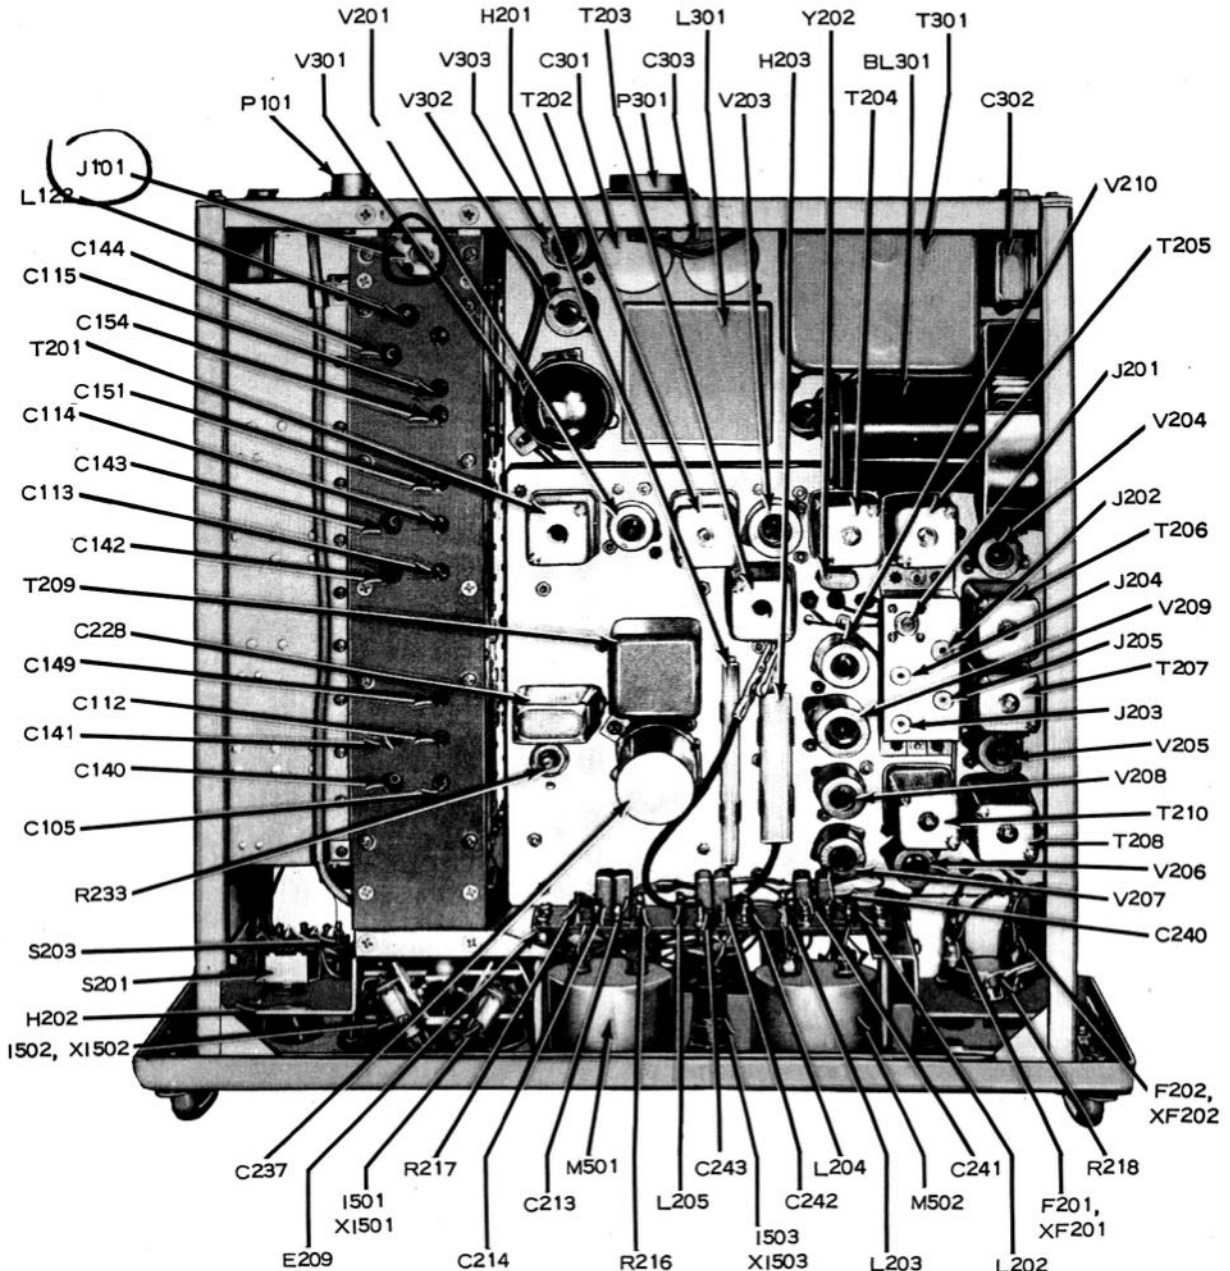
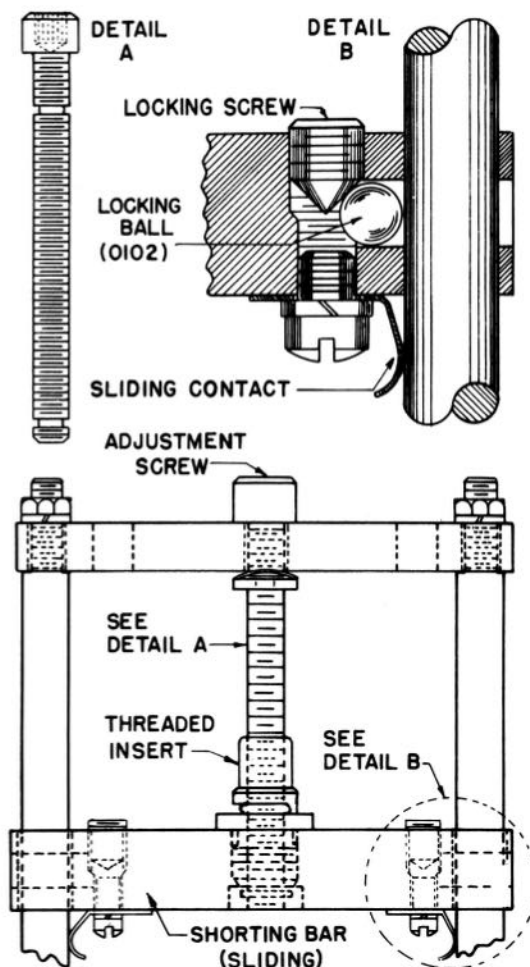
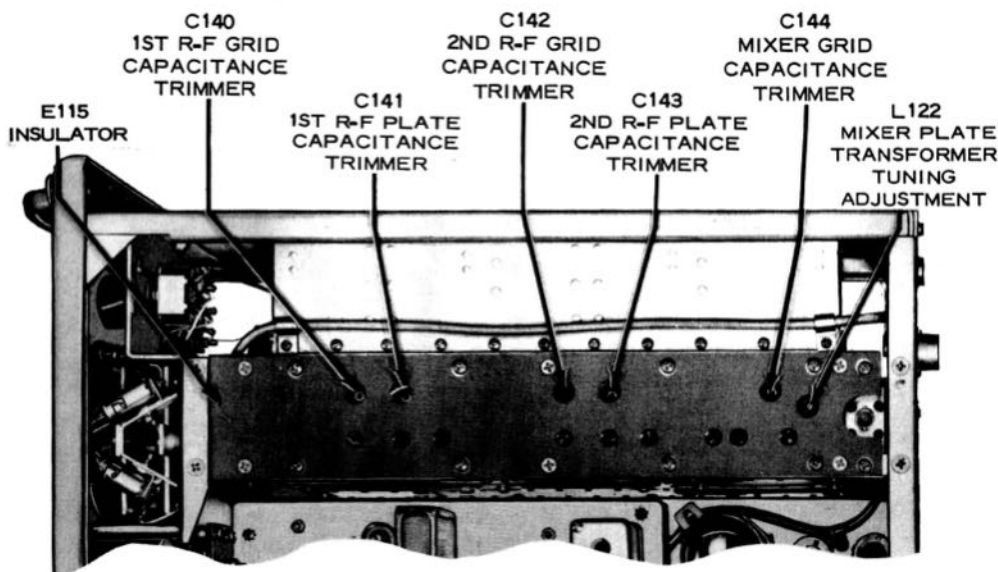

Figure 7-4. Radio Receiver R-482C/URR-35, Top View—Identification of Components
Figure 7-8. Details of Trimmer Inductances L103, L104, L107, L108, L111 and L112
Figure 7-10. Preselector Viewed from Top Side of Chassis, Showing Alignment Adjusting Screws
(1) RF Signal Generator AN/URM-25 series, Navy Model LP series, or equivalent signal generator having output impedance of 50 ohms.
(2) RF Signal Generator AN/URM-26 series, or equivalent.
(3) Multimeter ME-25/U series, Vacuum Tube Volt-Ohm-Milliammeter Navy Model OBQ series, or equivalent.
(4) Insulated alignment tool H201 and alignment and alignment loading tool H203, both mounted in clips on receiver chassis; see figure 7-4.
FUSE HOLDERS XF201 AND XF202 AT THE RIGHT SIDE OF THE FRONT SUB-PANEL; SEE FIGURE 7-4.
(1) Connect the output of RF Signal Generator AN/URM-25, or Navy Model LP, or equivalent, to 18.6-mc test jack J101 (see figure 7-4). Use type RG-58/U cable for connections.
(2) Tune the receiver to 218 megacycles, remove the type CR-24/U crystal from the CRYSTAL holder, set the OSC. switch to CRYSTAL and place the ALIGN-REC. switch in the REC. position.
(3) Set the POWER switch to its ON position and allow the receiver to warm up for about five minutes.
(4) Adjust the signal generator for 30 percent modulation at 1000 cps, and tune it to 18,602 kc.
Refer to figures 7-4 and 7-5 for the locations of test jacks, i-f transformers and their
(14) Tune the secondary of transformer T202 for maximum indication on the electronic multimeter by turning the adjusting screw at the bottom of the transformer.
(15) Tune the primary of transformer T202 for maximum indication on the electronic multimeter by turning the adjusting screw at the top of the transformer.
(16) Tune the secondary of transformer T201 for maximum indication on the electronic multimeter by turning the adjusting screw at the bottom of the transformer.
(17) Tune the first mixer plate inductance, L122 (located at the top of the preselector, as shown in figure 7-10), for maximum indication on the electronic multimeter.
(3) Tune transformer T210 (see figure 7-4) for minimum indication on the electronic multimeter.
(1) Connect the electronic multimeter between AGC test jack J204 (see figure 7-4) and ground.
(2) Set the OSC. switch to its MANUAL position.
(3) Tune the receiver throughout its entire range to find the lowest AGC voltage as indicated by the electronic multimeter.
(4) If the AGC voltage on the electronic multimeter is other than -2.3 volts, adjust it to that value by means of I.F. GAIN control R233, shown in figure 7-4. If it is not possible to adjust the AGC voltage to -2.3 volts, set it to the greatest negative voltage that can be obtained, which should be at least -2.0 volts. A maximum AGC voltage of less than -2.0 volts indicates a faulty receiver.
A D-C POTENTIAL OF 180 VOLTS IS PRESENT AT SOME OF THE INDUCTANCE AND CAPACITOR TRIMMER SCREWS AND AT SOME OF THE TRIMMER-INDUCTANCE LOCKING SCREWS (SEE FIGURE 7-10). WHEN LOOSENING OR TIGHTENING THE LOCKING SCREWS BE CERTAIN THAT RECEIVER POWER IS OFF. USE INSULATED ALIGNMENT TOOL H201 (FIGURE 7-4) FOR ALL SPLINED TRIMMER-SCREW ADJUSTMENTS.
(1) De-energize the receiver and remove the shielding covers from the preselector. Loosen the locking screws on trimmer inductances L103, L104, L107, L108, L111, and L112 (see figure 7-8 and 7-9) about one-eighth of a turn, using the Bristol wrench H202 (figure 7-4) mounted near the dial-drive assembly. Replace the shielding covers.
(2) Connect the output of RF Signal Generator AN/URM-26, or equivalent, to the 50 OHM ANT. input connector, J404, on the low-pass filter. Adjust the output attenuator of the signal generator for minimum output.
(3) Install a crystal, in the receiver CRYSTAL holder, which corresponds to some channel frequency between 230 and 234 megacycles, as determined by the formula:
(5) Place the probe of the electronic multimeter on second-doubler-grid test point C124 and tune second-doubler-grid inductance L115 for a maximum meter reading.
(6) Place the probe of the electronic multimeter on tripler-grid test point C131 and tune tripler-grid inductance L117 for a maximum meter reading.
(7) Place the probe of the electronic multimeter on the trimmer screw of mixer-grid inductance L111 and tune tripler-plate inductance L112 for a maximum meter reading.
(8) Connect the electronic multimeter between AGC test jack J204 and ground; see figure 7-4.
(14) Place the probe of the electronic multimeter on second-doubler-grid test point C124 and tune second-doubler-grid trimmer capacitor C147 for a maximum meter reading.
(15) Place the probe of the electronic multimeter on tripler-grid test point C131 and tune tripler-grid trimmer capacitor C145 for a maximum meter reading.
(16) Place the probe of the electronic multimeter on the trimmer screw of mixer-grid inductance L111 and tune tripler-plate trimmer capacitor C146 for a maximum meter reading.